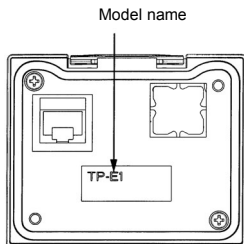

Figure 1.1 Back of Remote Keypad TP-E1
- (1) The package contains the Remote Keypad and its instruction manual (this book).
- (2) There have been no problems during transportation. In particular, no parts are damaged or have fallen out of place nor are there any dents on the body.
- (3) The model name "TP-E1" is inscribed on the back of the Remote Keypad as shown in Figure 1.1.